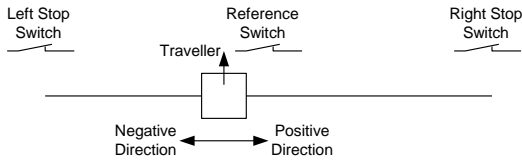

Figure 9.1: State machine
- In figure 9.1 the connection of the left and the right limit switch is shown. In circular systems there are no end points and thus only one reference switch is used for finding the reference point.